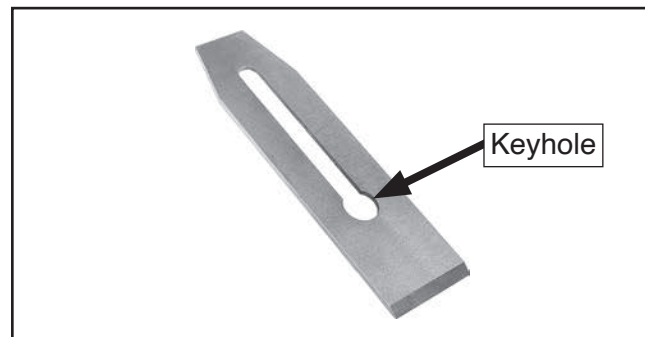

Figure 9. Location of blade keyhole.
2. Loosen blade screw securing blade to chip breaker, slide blade up until screw head clears blade keyhole (see **Figure 9**), then remove blade.